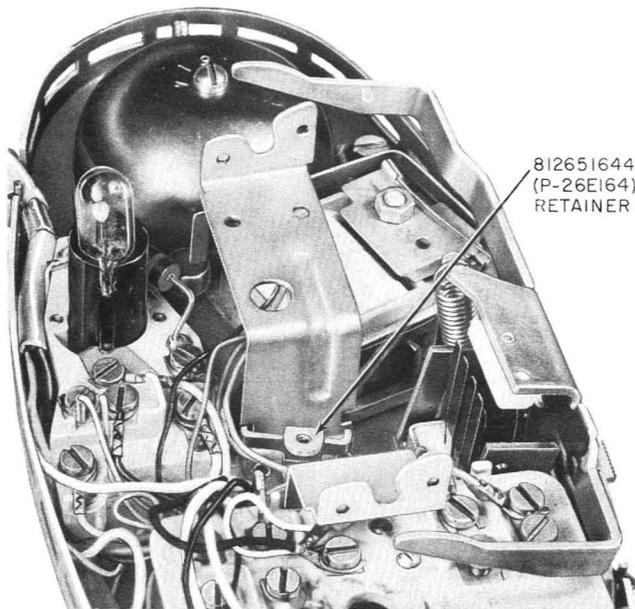

Fig. 10—Installing Terminal Board Retainer in PRINCESS Telephone Set
- (1) Remove housing, loosen dial mounting screws, and move the dial to one side without disconnecting the dial leads.
- (2) Insert the 812651644 (P-26E164) retainer in left-hand dial mounting bracket (Fig. 10).
- (3) Insert tabs of 812166759 (P-21F675) terminal board into notches in right-hand dial mounting bracket and secure to retainer using 814313920 (P-43A392) screw.
- (4) Connect polarity guard per Table E.